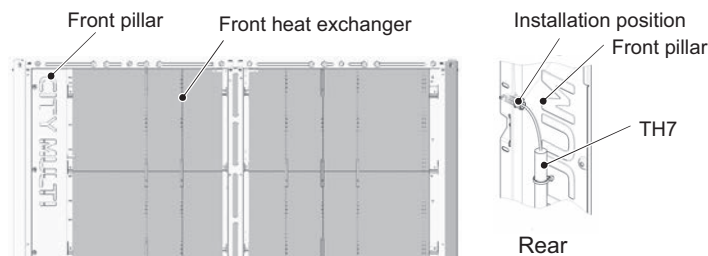

Figure 14
- (15) Remove the front pillar. (7 screws, Figure 14)
- (16) Remove the TH7 through the hole on the front pillar. (Figure 14 Rear)